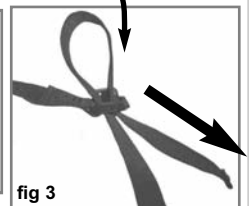

fig 3
3. Pull strap through Slot "B". Pull strap to adjust tension. (fig 3)